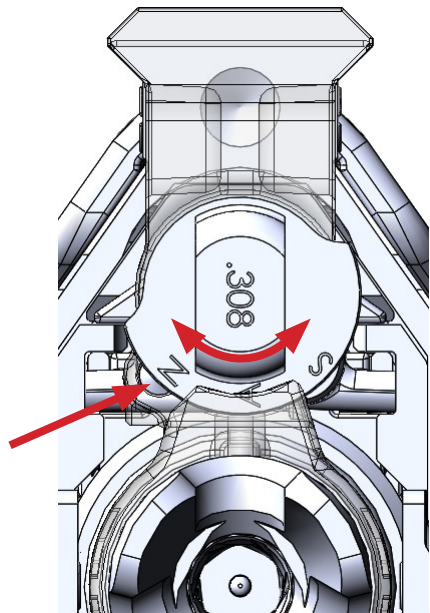

Fig. b-1
1. To set the gas setting to Normal, rotate the gas valve within the gas block until the "N" is centered over the detent and clicks into place. (Fig. b-1)
2. To set the gas setting to Adverse, rotate the gas valve within the gas block until the "A" is centered over the detent and the gas valve clicks into place. (Fig. b-1)
3. To set the gas setting to Suppressed, rotate the gas valve within the gas block until the "S" is centered over the detent and the gas valve clicks into place. (Fig. b-1)